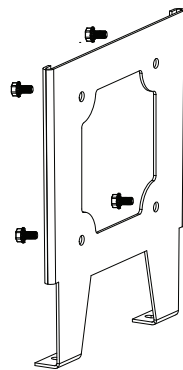

Fig 2. Installing the wall piece
2. Attach the wall piece of the wall mounting bracket to the wall surface so that it is oriented as shown, with the side rails away from the wall and locking flanges on the bottom **(Fig. 2)**.